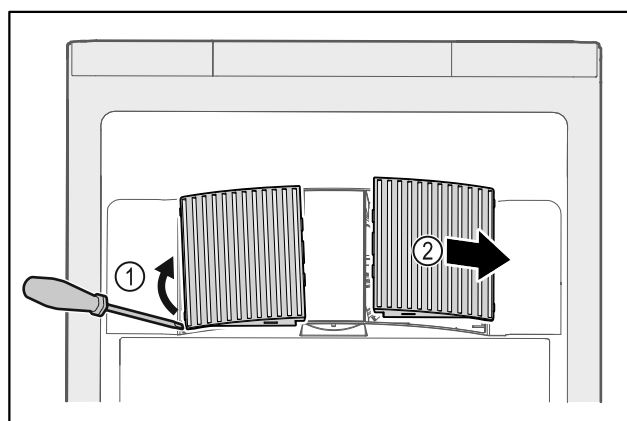

Fig. 200
- ▶ Carefully lever out fan covers from the side Fig. 200 (1) and remove towards the front Fig. 200 (2).